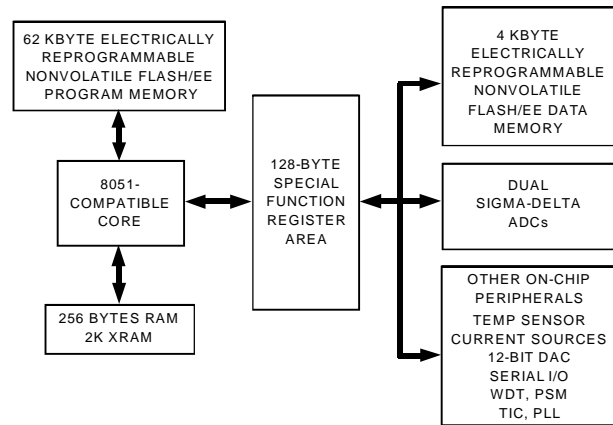

Figure 15. Programming Model
The SFR space is mapped into the upper 128 bytes of internal data memory space and accessed by direct addressing only. It provides an interface between the CPU and all on chip peripherals. A block diagram showing the programming model of the ADuC834 via the SFR area is shown in Figure 15. All registers except the Program Counter (PC) and the four general-purpose register banks, reside in the SFR area. The SFR registers include control, configuration, and data registers that provide an interface between the CPU and all on-chip peripherals.